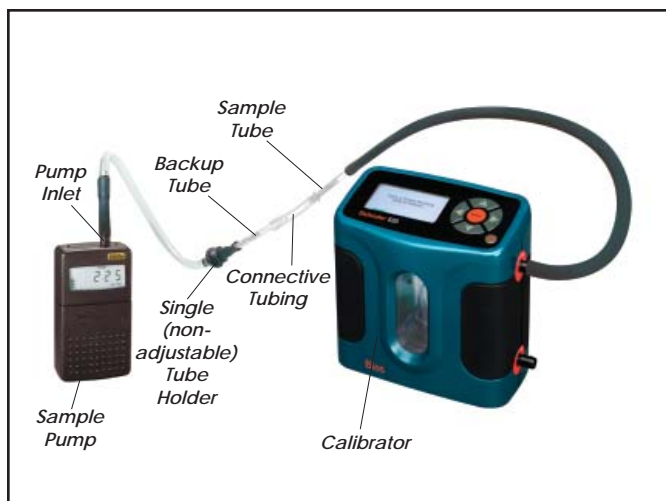

Figure 2. Calibration train using single (non-adjustable) tube holder
With Single (non-adjustable) Tube Holder — See Figure 2
3. Calibrating the Flow Rate — See Figure 2